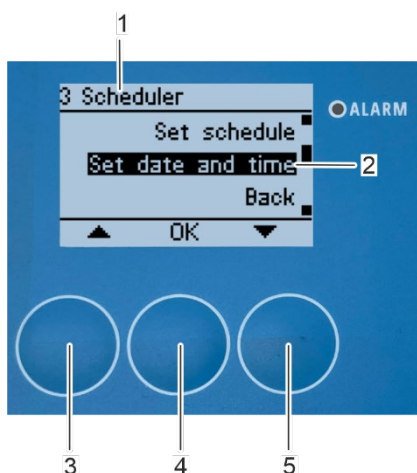

Fig. 157: Open "Set date and time" submenu
8. Select the "Set date and time" submenu (Fig. 157/2) in "3 Scheduler" submenu (Fig. 157/1) with the arrow keys *[up]* (Fig. 157/3) and *[down]* (Fig. 157/5).
9. Confirm the selection with *[OK]* (Fig. 157/4).